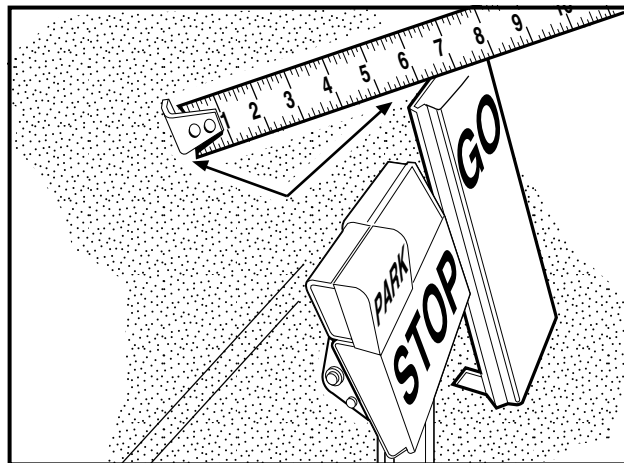

**Figure 5-14 Park Brake Ratchet/Pawl Gap Adjustment**
- 3.2. Adjust retaining nut (7) on spring support rod until there is a 0.060 inch (1.5 mm) gap between the pawl and the tips of the ratchet teeth. Use a feeler gauge to verify the gap (**Figure 5-14, Page 5-18**).
- 3.2. Adjust retaining nut (7) on spring support rod until there is a 0.060 inch (1.5 mm) gap between the pawl and the tips of the ratchet teeth. Use a feeler gauge to verify the gap (**Figure 5-14, Page 5-18**). The gap should be consistent through range of pawl movement. If the gap is not consistent, loosen the four bolts (6) securing the accelerator pivot rod supports and adjust the supports. If the gap becomes smaller as the park brake pedal is depressed, move the pivot rod supports slightly rearward until the gap is consistent. If the gap becomes larger as the park brake pedal is depressed, move the pivot rod supports slightly forward until gap is consistent.